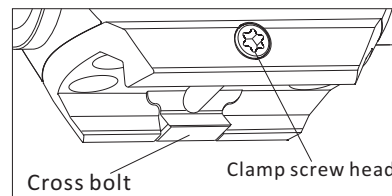

Fig 3
- Insert the appropriate Torx wrench (included) into the clamp screw head, rotate to loosen the cross bolt and then slide the sight into the firearms rail to the appropriate position. Finally tighten the clamp screw. (Fig 3)